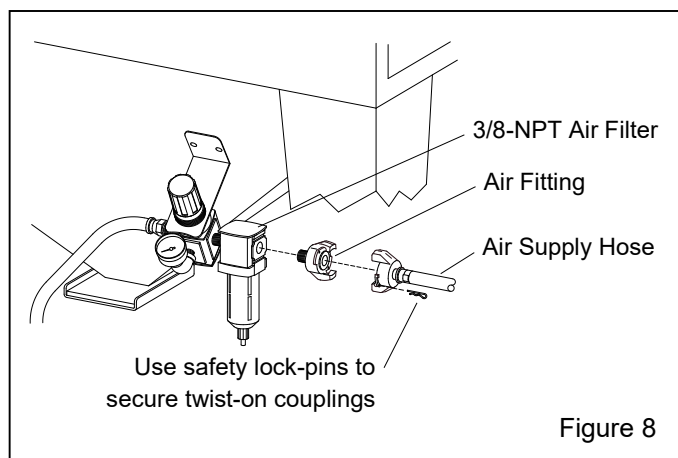

Figure 8
**2.3.2** Refer to Figure 8 Apply thread sealant to the male threads of an air fitting that is compatible with the air supply hose fitting and install it onto the 3/8-NPT air filter located under the cabinet hopper. If preferred, slip a short length of 1/4" tubing over the filter's drain barb to direct drain water into a container. **Note that the style of connection shown in Figure 8 is for reference only.**